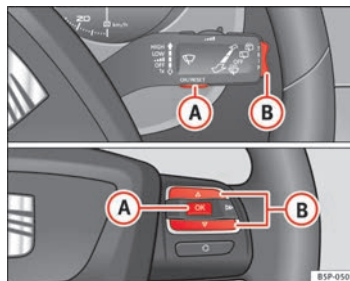

Fig. 40 Rocker buttons A and B. Steering wheel controls.
- When the ignition is on, briefly press button ⇒ Fig. 40 (A) on the windscreen wiper lever to change from one memory to another or press button (A) on the steering wheel controls ⇒ Fig. 40.